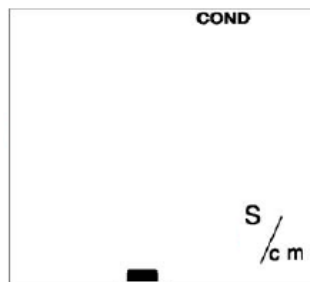

Figure 8
2. Press the ENTER button until S/cm appears (fig. 8).